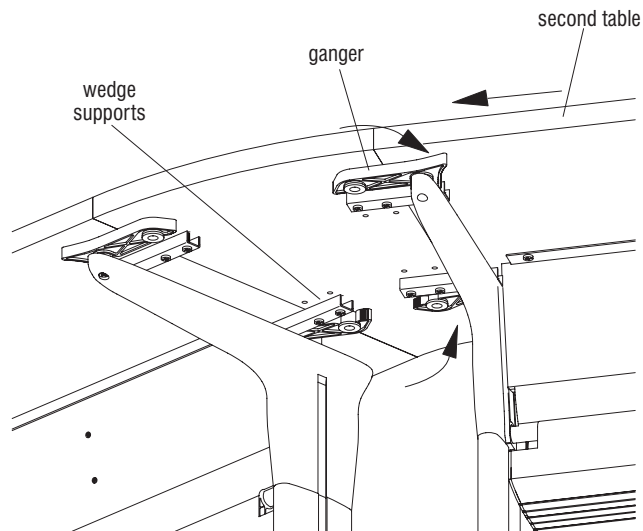

Figure 4
- Slide the second table up to the wedge and position the wedge supports into the gap between the top of the leg and the underside of the worksurface. Pivot the gangers under the table until they snap onto the bosses (Figure 4).